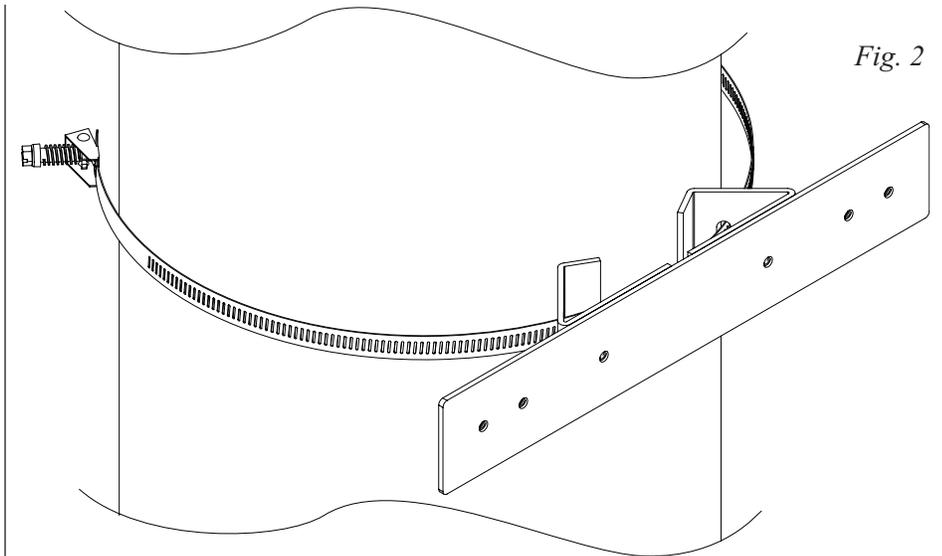

Fig. 2
2. Once the desired height of the top Pole Mount bracket is achieved, tighten the straps down by sliding open end of the strap through the locking mechanism on the strap, then tighten screw with flat head screwdriver or 5/16" hex socket driver (*Figs. 2 and 3, pg. 1*).